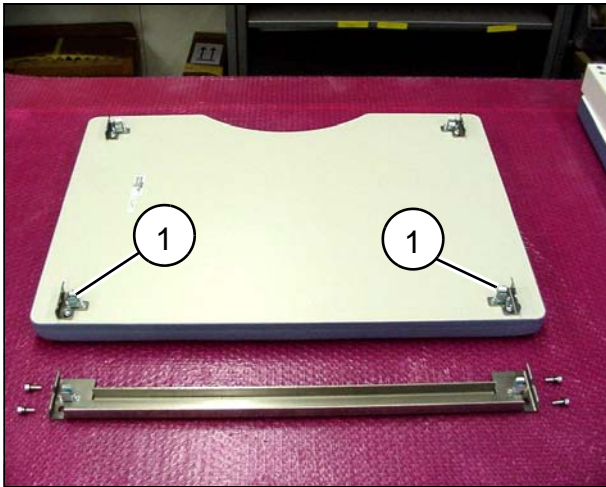

Fig. 1
- Remove both mounting clips (1/Fig. 1 and 1/Fig. 2) from the back side of the tabletop.